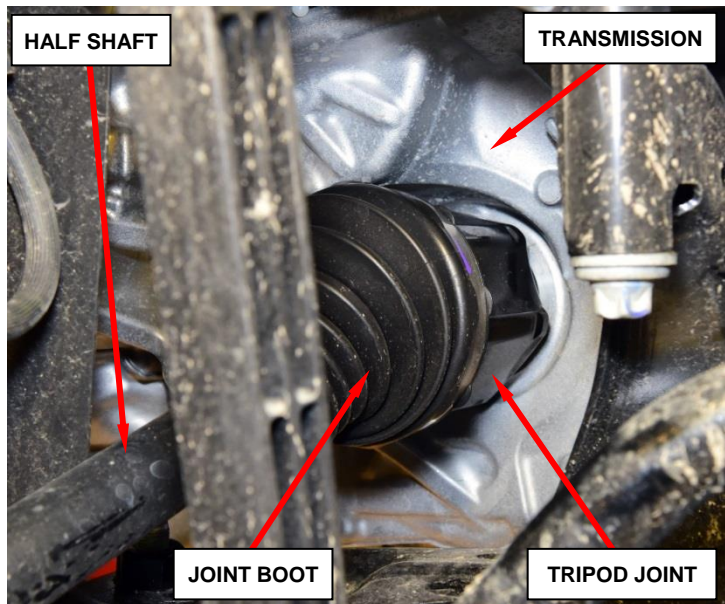

Figure 8 – Half Shaft Tripod Joint
9. Remove the half shaft tripod joint from the transmission side gear (Figure 8).
13. Install the half shaft into the transmission while lightly twisting until the half shaft tripod joint slides all the way into the transmission and the tripod joint circlip engages with the transmission side gear (Figure 8).